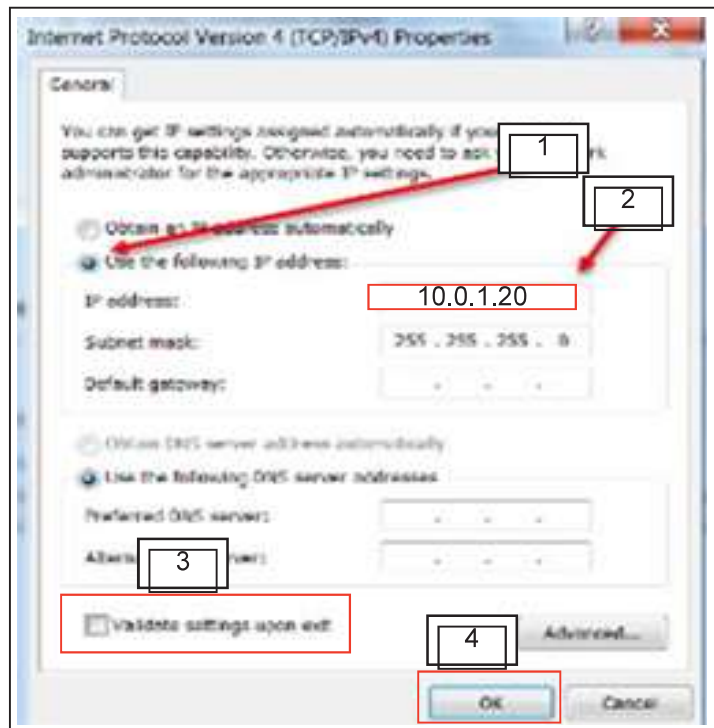

Figure 11 - IP Address Modification
c. In the new window, select **Use the following IP address** (1) and enter the value (2) shown in Figure 11.
d. Check **Validate setting upon exit** (3) and click the **OK** (4) button. See Figure 11.